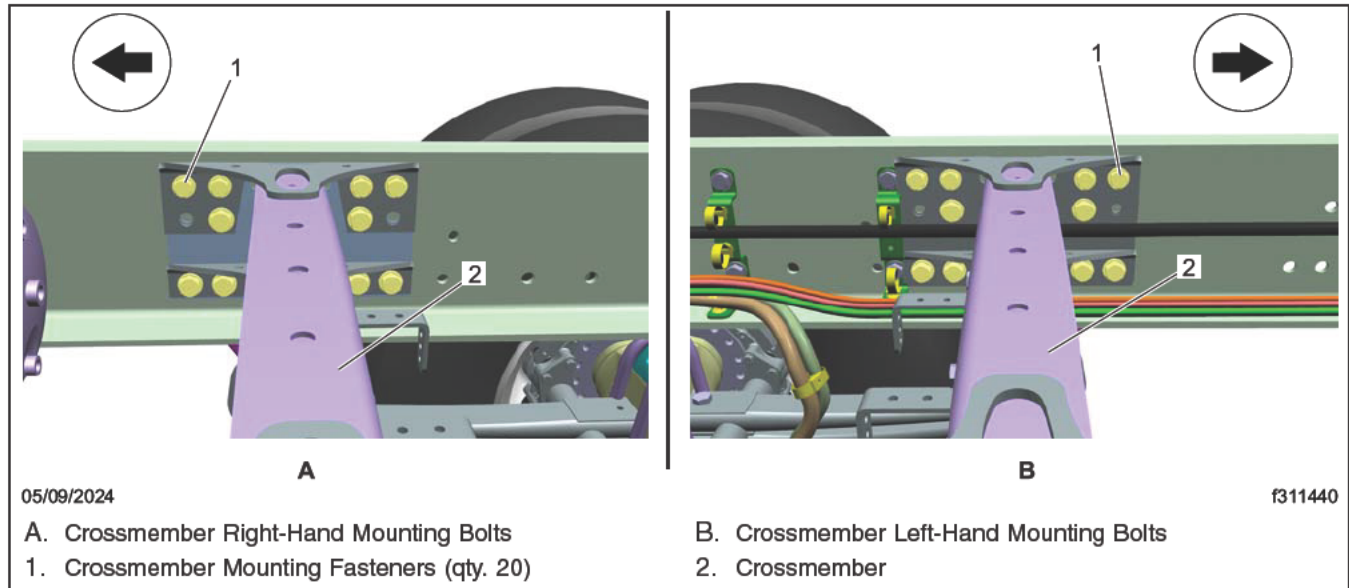

Fig. 11, Crossmember Mounting Fasteners
1. Remove the fasteners that attach the crossmember to both the frame rails. See Fig. 11.